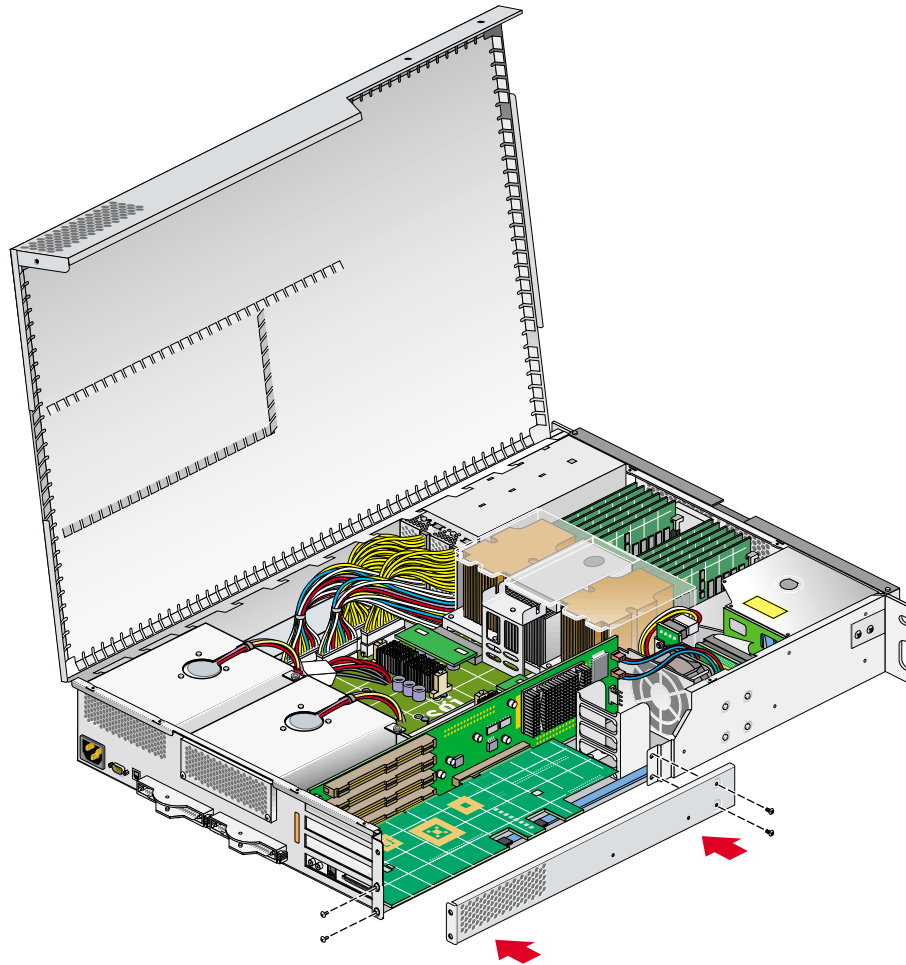

Figure 3-8 Replacing the Lower PCI/PCI-X Support Bracket
12. If you have installed a card in one of the two bottommost card slots, replace the lower PCI/PCI-X support bracket that covers the two bottommost slots and screw in the four Phillips screws, as shown in Figure 3-8.